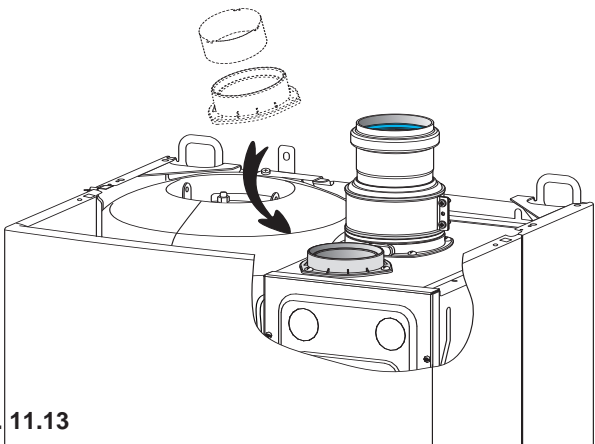

FIG. 11.13
- 1 - Remove the air vent intake in the area indicated in Fig. 11.13, by breaking the perforated ring.